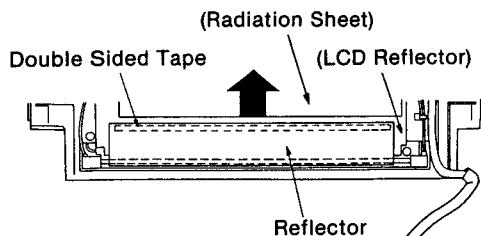

Figure 39
(9) Stick the lamp reflector to the LCD reflector by pulling in the direction of arrow as shown in Figure 39.